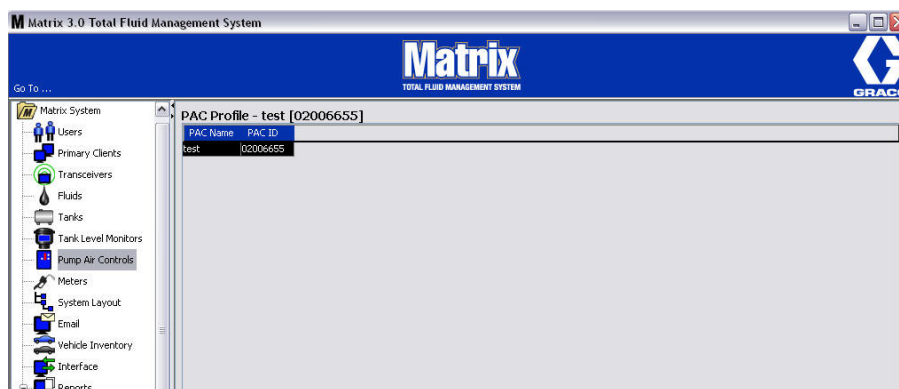

FIG. 116
- The Linked PAC appears on the main screen as shown in FIG. 116.